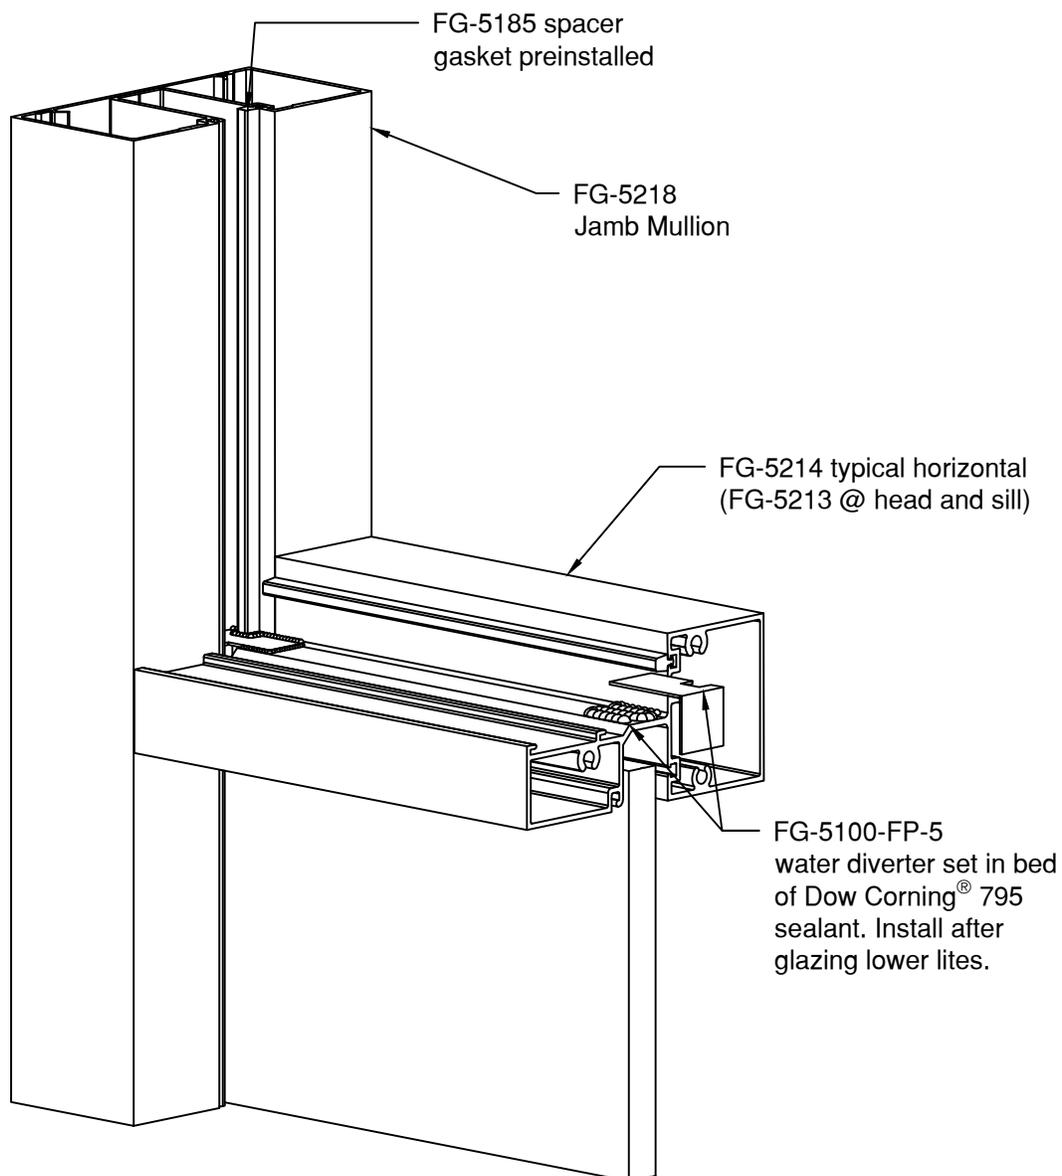
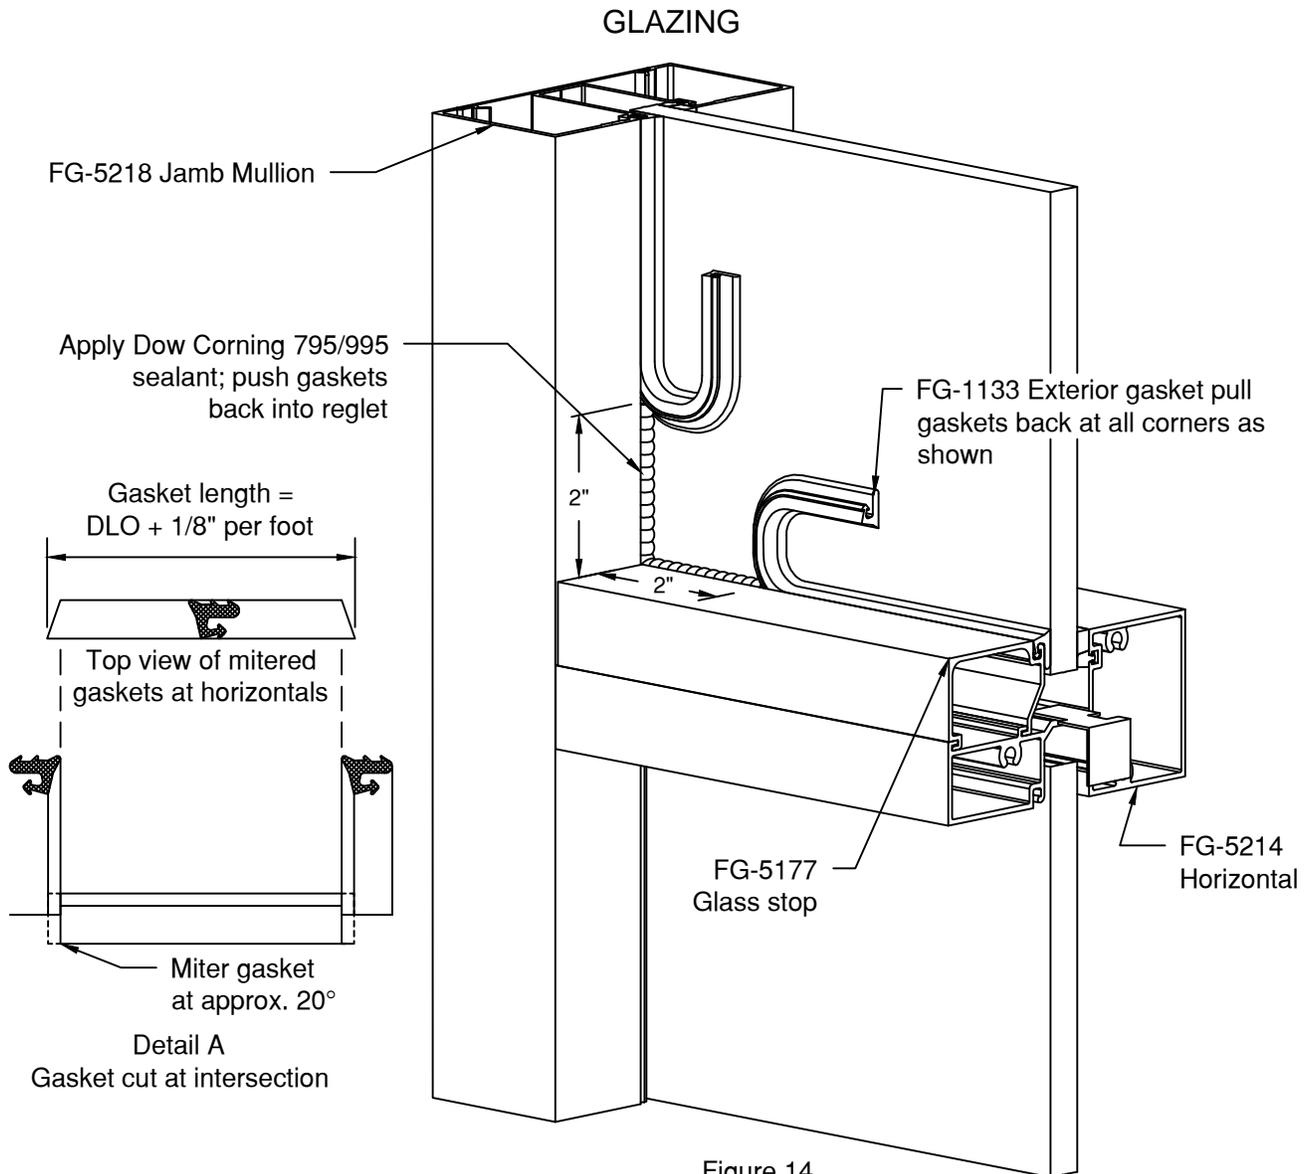
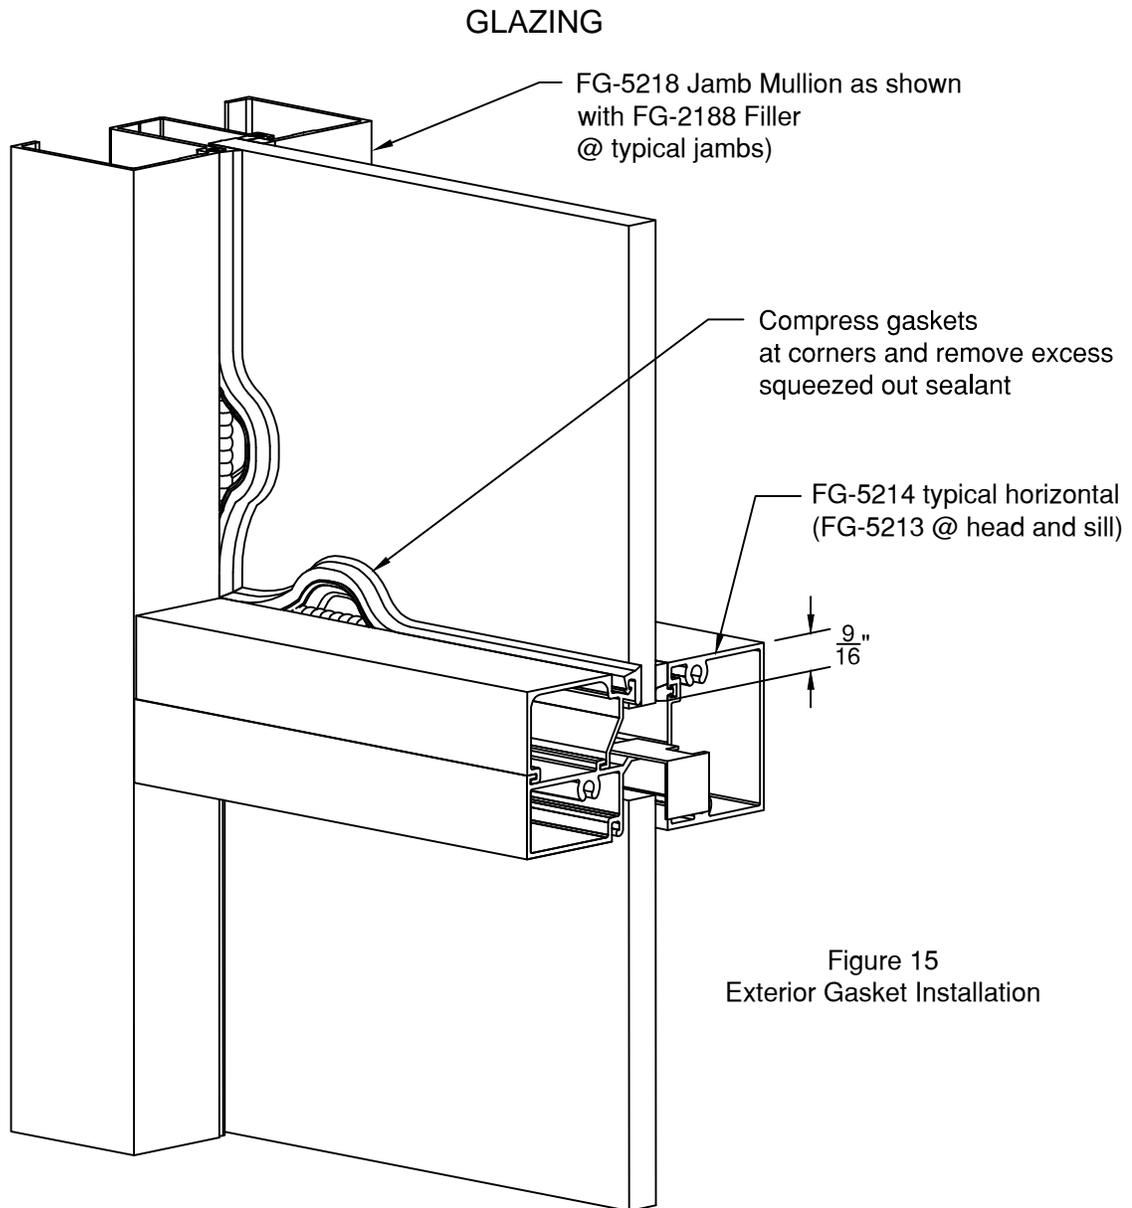

Figure 13
Figure 14
Figure 15
- 4.1.2 Install water diverters see **Figure 13** after lower lite is in position.
- 4.2.4 Cut gaskets a minimum of 1/8" per foot longer than daylight opening to provide for adequate compression. as shown at **Figure 14 detail A.**
- 4.2.5 After gaskets are pressed in place. Pull gasket from pocket as shown in Figure 13 above. Clean glass and gaskets a minimum of 2" from each end with isopropyl alcohol. Apply Dow Corning® 795/995 sealant see Figure 14. Push gaskets into reglet, **See Figure 15 on Page 17.**